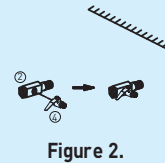

Figure 2.
1. First fix the SS ball valve (marked as no. 4) to the 1/4 inch port of the 3-way connector (marked as no. 2) as shown in figure 2.
2. Similarly, connect one end of the white pipe to the lower elbow fitting connector in tank labeled as REJECT WATER and leave the other end in the drain, as shown in fig 2.